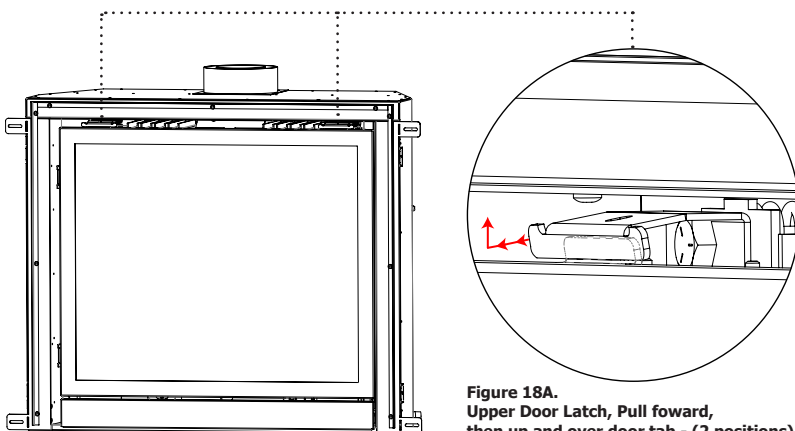

Figure 18A. Upper Door Latch, Pull forward, then up and over door tab - (2 positions)
Step 2. To remove the glass door use your two index fingers to pull the spring latches up over the two door tabs. Fig.18A